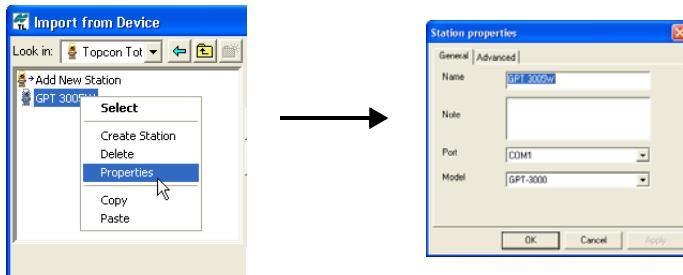

Figure 2-26. Changing the Total Station Properties
6. A new icon for the Total Station displays (Figure 2-26) in the ***Import from Device*** dialog box. To change the properties (communication parameters, name, model, and so on), right click on the icon and select *Properties* on the pop-up menu. The ***Station Properties*** dialog box for the Total Station is identical to the ***Create Station*** dialog box for the new Total Station.